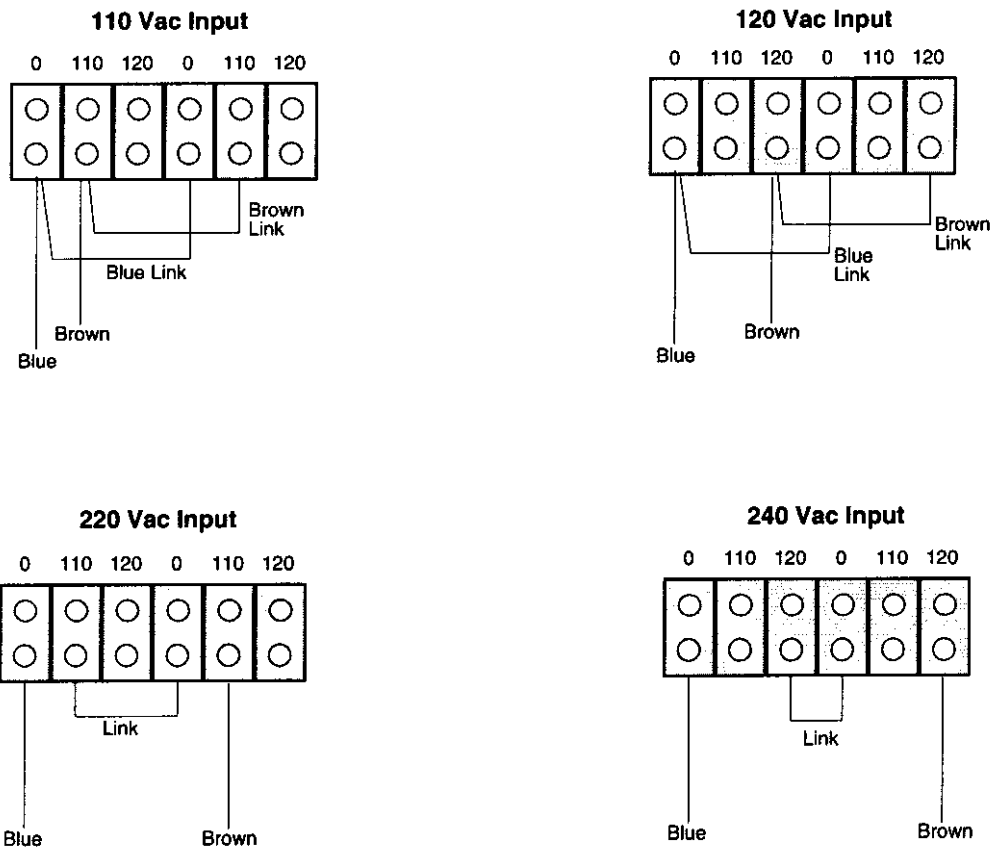

Fig 3 AC Tap Configuration
- Establish the local ac mains voltage; then set the wires and links appropriate to that voltage (see Fig 3)